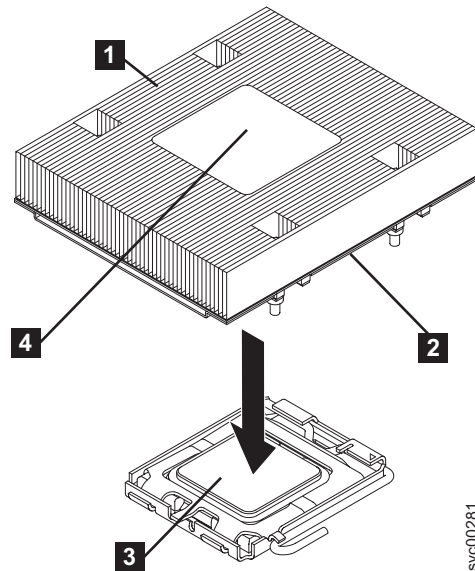

Figure 188. Installing the heat sink
7. Place the heat sink **1** on top of the microprocessor **3** with the thermal grease **2** side down, as shown in Figure 188 on page 203. Tighten the captive screws to secure the heat sink to the system board. Alternate among